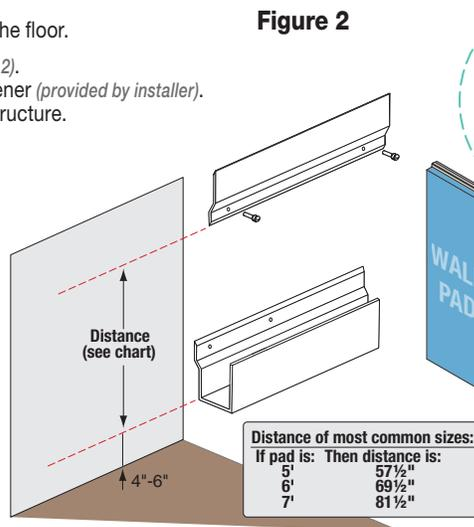

Figure 2
2. Line up the "J" channel with the bottom edge on the line (see Fig. 2). Drill and anchor the channel to the wall with an appropriate fastener (provided by installer). Spacing and type of fastener is dependent on the type of wall structure. A groove is provided in the channel to aid in drilling holes.
4. Locate the "Z" channel on the top line (see Fig. 2) and anchor to the wall with an appropriate fastener (provided by installer). Spacing and type of fastener is dependent on the type of wall structure.